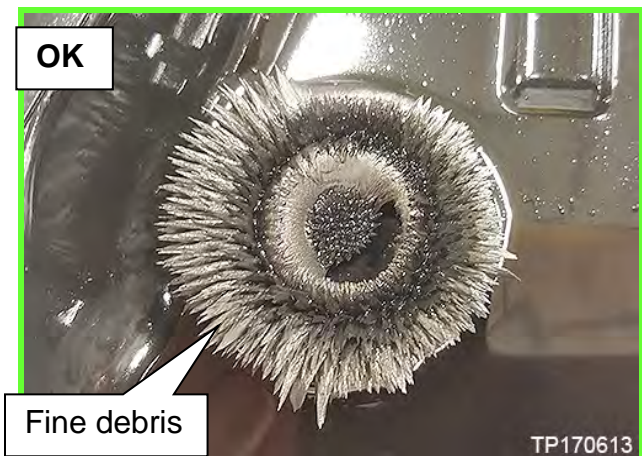

Figure 4B
- Figure 4B is **OK** – Magnets with fine debris or sludge in any amount.